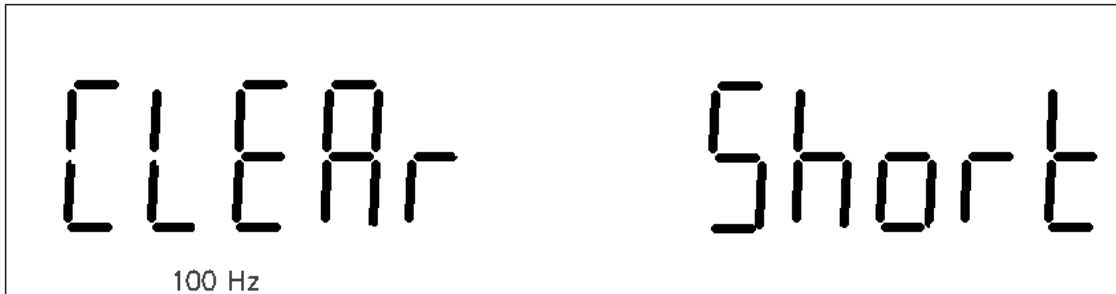

Figure 3-3 Short Correction
2. The information shown in Figure 3-3 will be displayed. **SHORT** flashes.